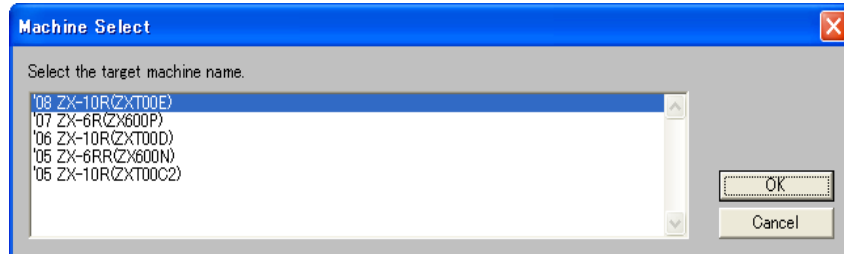

Fig. 15 Machine Select Screen
- (1) Double-click the shortcut icon **Kawasaki FI Calibration Tool** on the Desktop screen or click the **Kawasaki FI Calibration Tool** in Program Menu on Start Menu.
- (2) Then Machine Select screen shown Fig. 15 appears.